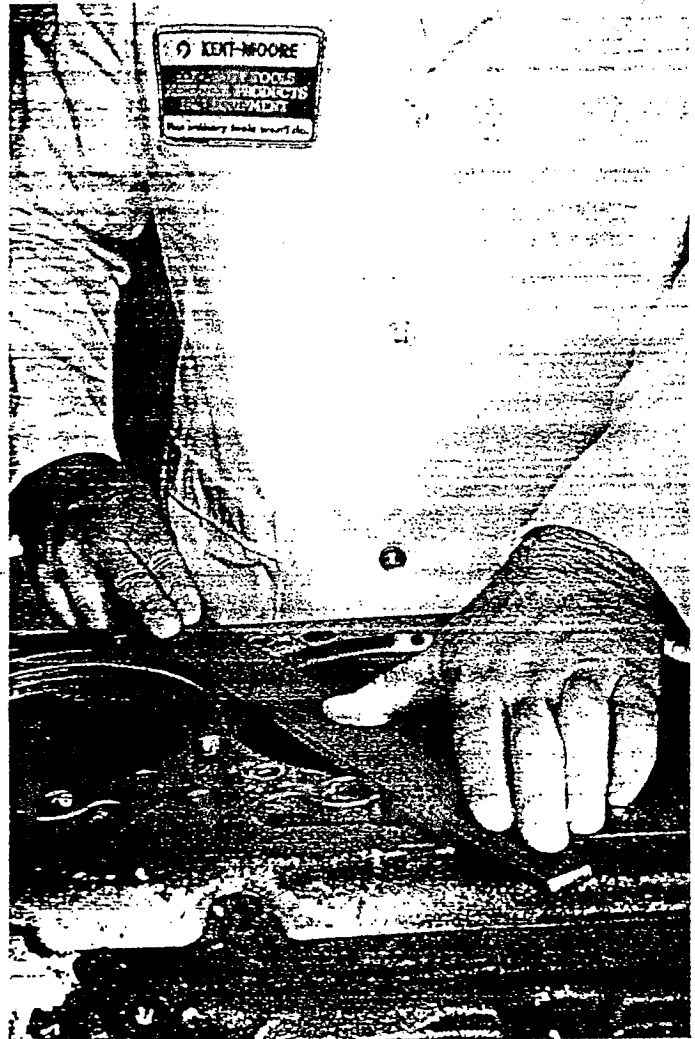

FIGURE 21
3. When fully installed, the bushing will protrude slightly above the top of the block approximately 0.004". This protrusion must be filed even with the top of the deck. (PT 2000-400 File.) Remove all burrs using a scotch pad. Sand paper should never be used. (See Figure 21.)